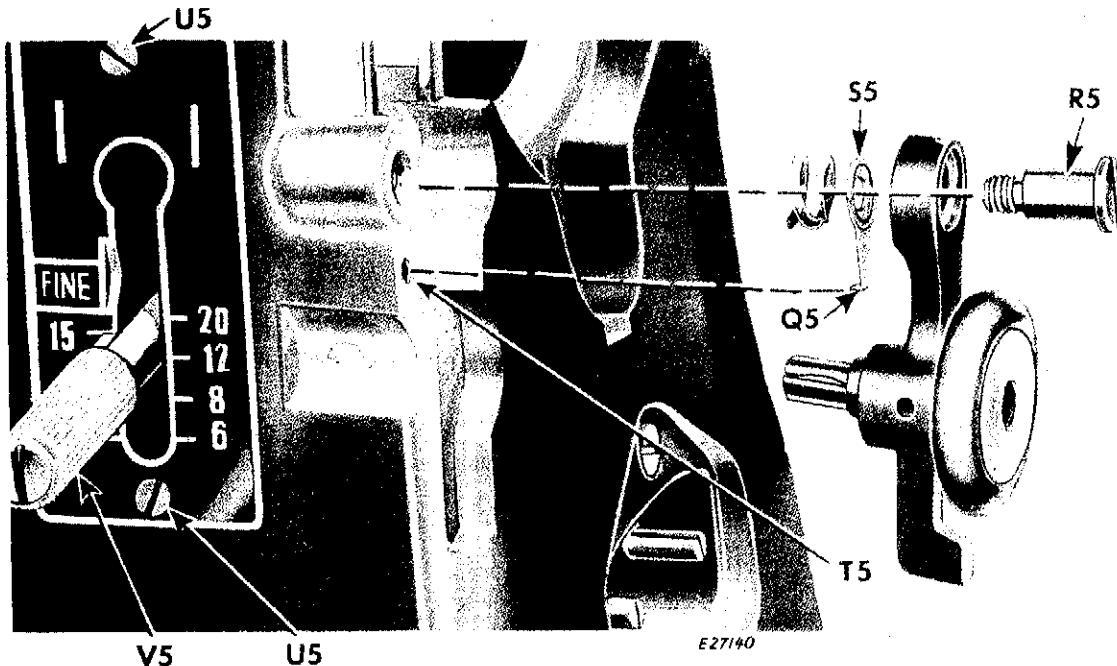

Fig. 312. Bobbin Winder Removed
2. Remove screw R5, Fig. 312.
3. Disassemble as shown in Fig. 312.
1. Assemble in order indicated in Fig. 312.
2. Remove two screws U5, Fig. 312, holding stitch regulator plate.
3. Move feed regulator V5, Fig. 312 to bottom of slot in indicator plate.
1. Install regulator V5, Fig. 312 in arm, making certain that slide fits on block on feed fork connection.